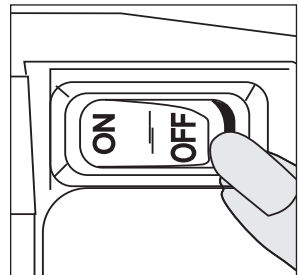

Figure 1
3. Make sure the power switch is in the “Off” position (**Fig. 1**). Unwrap power cord and plug power cord into an appropriate wall outlet (refer to *Specifications*). Plug models 5650H & 4650D into a grounded wall outlet (refer to *Grounding Instructions*).
1. Make sure the power switch is in the “Off” position (**Fig. 1**) and unwrap power cord.
9. Press the power switch “On” (**Fig. 1**) to start the compressor.